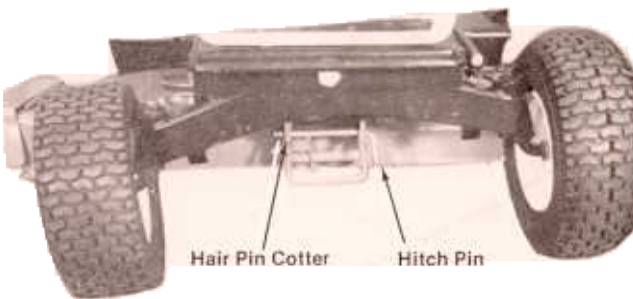

FIGURE 26.
2. Remove the hairpin cotter and pull out the hitch pin. See figure 26.